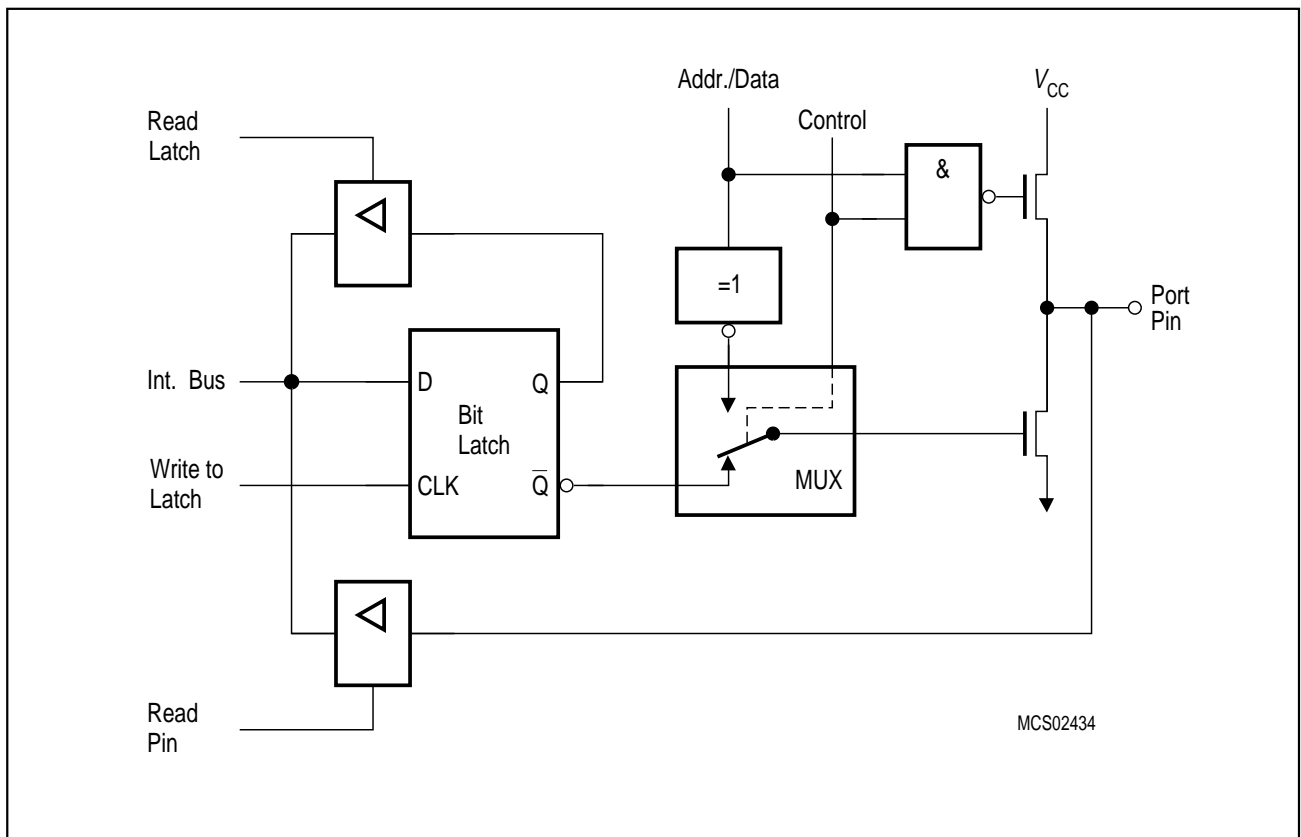
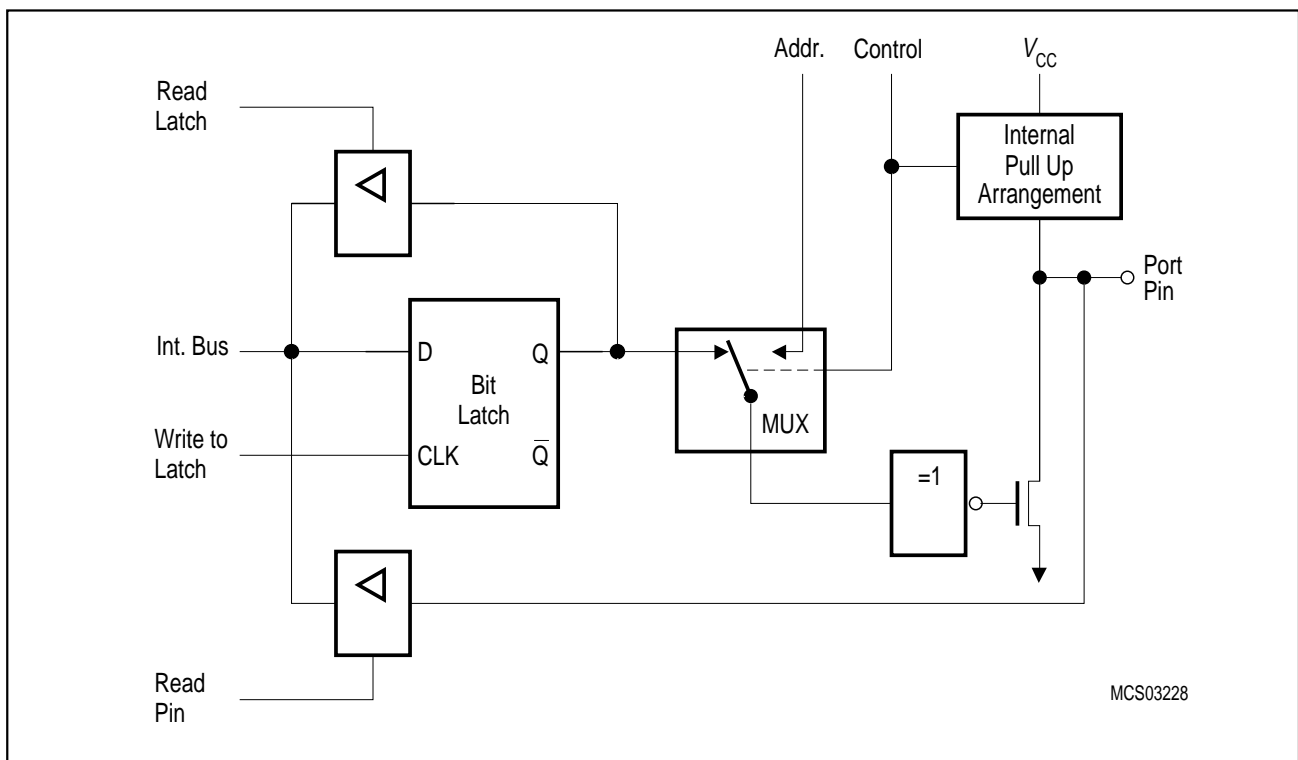

Figure 6-3
Figure 6-5
Port 0, in contrast to ports 1 to 4, is considered as "true" bidirectional, because the port 0 pins float when configured as inputs. Thus, this port differs in not having internal pullups. The pullup FET in the P0 output driver (see **figure 6-3**) is used only when the port is emitting 1's during the external memory accesses. Otherwise, the pullup is always off. Consequently, P0 lines that are used as output port lines are open drain lines. Writing a "1" to the port latch leaves both output FETs off and the pin floats. In that condition it can be used as high-impedance input. If port 0 is configured as general I/O port and has to emit logic high-level (1), external pullups are required.
As shown in **figure 6-3** and below in **figure 6-5**, the output drivers of ports 0 and 2 can be switched to an internal address or address/data bus for use in external memory accesses. In this application they cannot be used as general purpose I/O, even if not all address lines are used externally. The switching is done by an internal control signal dependent on the input level at the $\bar{E}A$ pin and/or the contents of the program counter. If the ports are configured as an address/data bus, the port latches are disconnected from the driver circuit. During this time, the P0/P2 SFR remains unchanged. Being an address/data bus, port 0 uses a pullup FET as shown in **figure 6-3**. When a 16-bit address is used, port 2 uses the additional strong pullups p1 (**figure 6-6**) to emit 1's for the entire external memory cycle instead of the weak ones (p2 and p3) used during normal port activity.